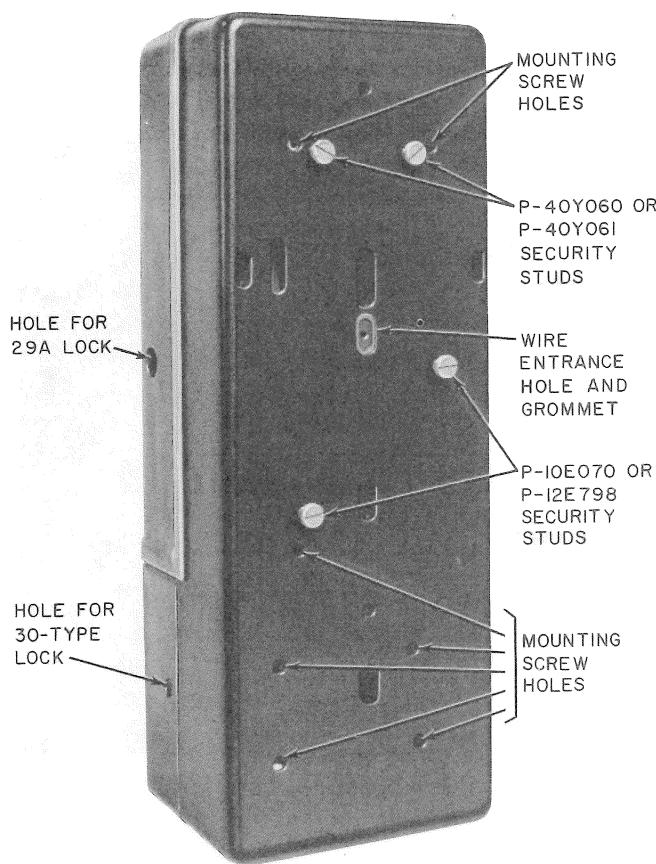

Fig. 6—Location of Mounting Screw Holes and Security Studs in 1-Type Set
- 2.05** Refer to Fig. 6 and 7 and Tables B and C for security stud requirements.